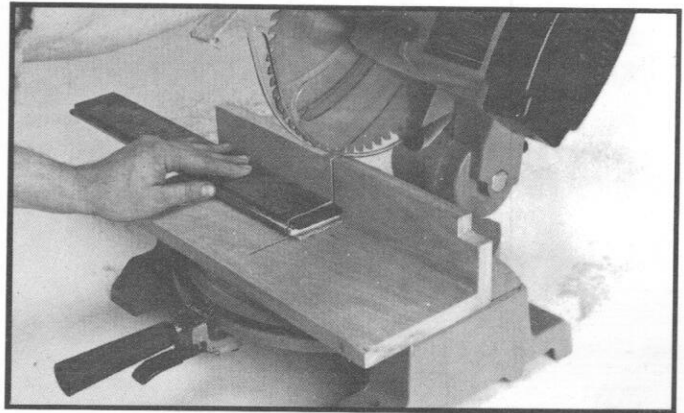

Fig. 5
5. Figure 5 illustrates making a trim cut at 90 degrees on a piece of oak flooring. Notice that the cut-off piece remains in front of the fence where it can be safely removed before the next cut is made.